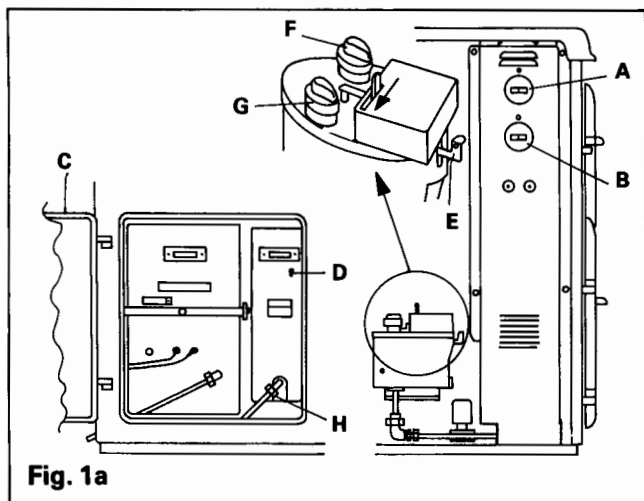

Fig. 1a
The householder should be advised to turn **OFF** both cooker and boiler control knobs **A** and **B** (Fig. 1a) the night preceding the day of service, so that the appliance will have cooled down by the following morning, in readiness for servicing.
- Open outer burner door **C** – See Fig. 1a.
- Lift off cooker combustion chamber door **D** – See Fig. 1a.
2. To Remove Cooker and Boiler Burners – See Fig. 1a